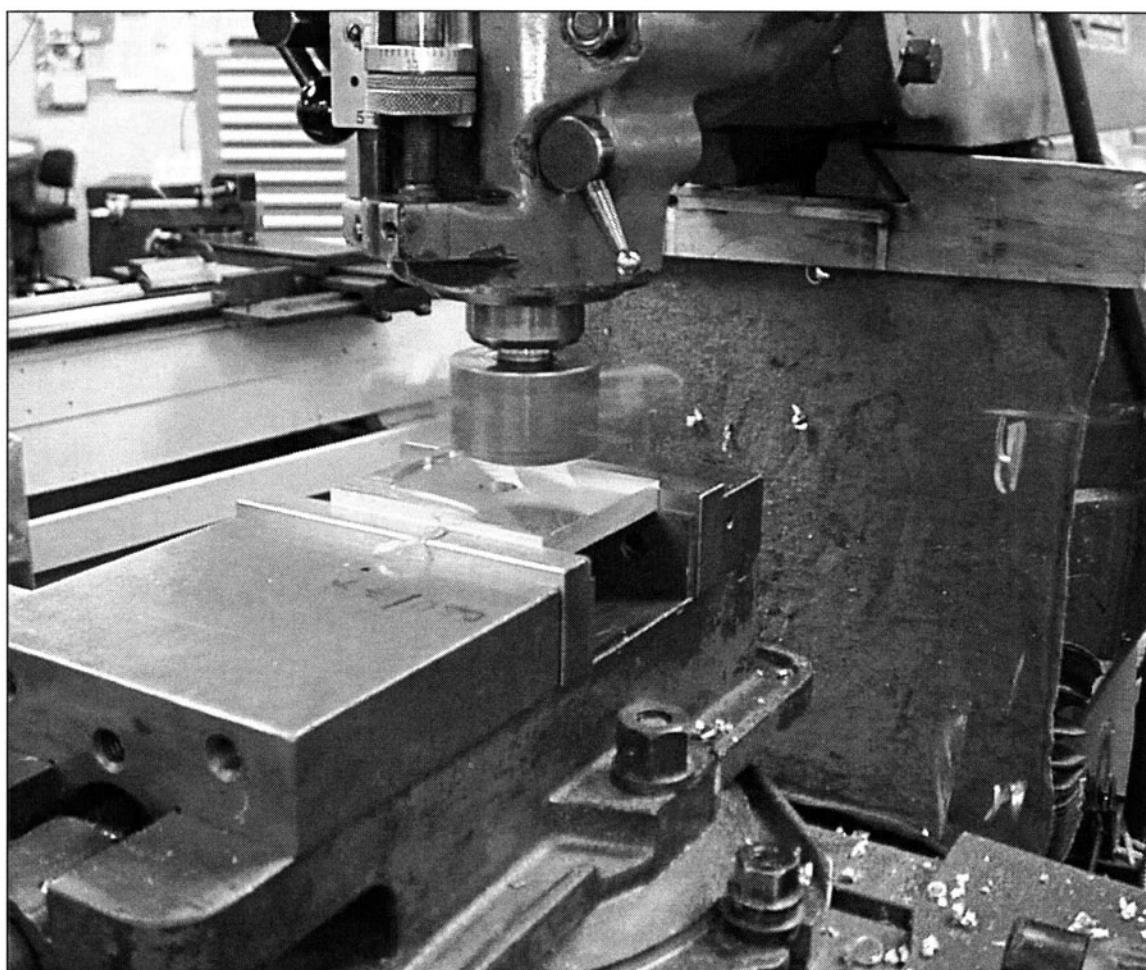

FIGURE 6-16 A shop rag is used to keep chips from ricocheting off the body of the mill.
24. Install a shop rag on your conventional milling machine to stop flying chips. (See Fig. 6-16)